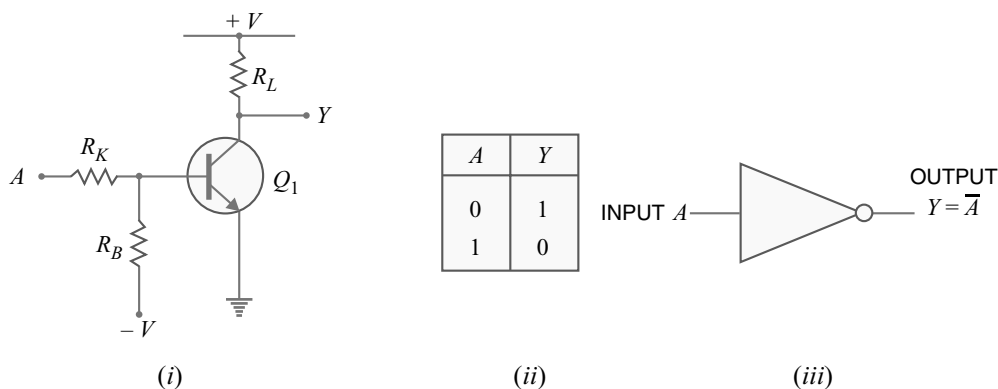

Fig. 24.17
**NOT gate operation.** The NOT gate is often called *inverter* because it inverts the input i.e., output is opposite of the input. Fig. 24.17 (i) shows the inverter or NOT circuit. Here  $R_K$  and  $R_B$  form a voltage divider between ground and the negative voltage ( $-V$ ). The operation of NOT gate circuit is as under :
(i) **When input  $A = 0$ .** When  $A$  (the base of the transistor) is connected to ground, the base of the transistor  $Q_1$  will become negative. This makes base-emitter junction reverse biased so that base current and hence collector current is zero. Therefore, output voltage is  $+V$  volts. Hence the output is high i.e.,  $Y = 1$  as shown in the truth table in Fig. 24.17 (ii).
(ii) **When input  $A = 1$ .** If sufficiently large positive voltage is applied at  $A$ , the base-emitter junction and collector-base junction become forward biased and the transistor comes in the *saturated mode*. Under this condition, maximum collector current flows. Therefore, output voltage becomes zero. Hence the output is low i.e.,  $Y = 0$  as shown in the truth table in Fig. 24.17 (ii). It is clear from the truth table that *for a NOT gate, the output is high (1) if input is low (0) and vice-versa*.
Fig. 24.17 (iii) shows the logic symbol for NOT gate or inverter. Note that small bubble on the inverter symbol represents inversion. The Boolean expression for NOT function is